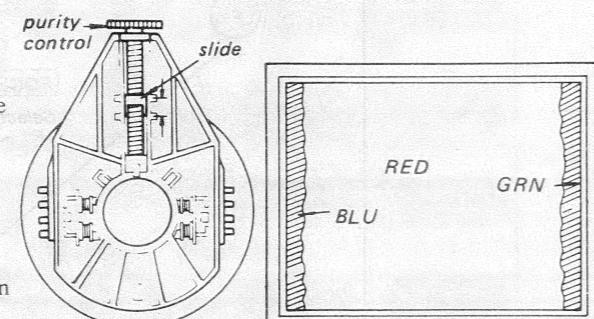

Fig. 3-1. Fig. 3-2.
3. Adjust purity control to center the slide between two projections as shown in Fig. 3-1.